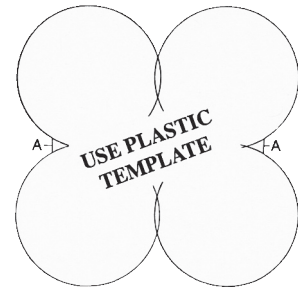

FIGURE 1
2. Using the enclosed drill guide templates, drill four 3/16" holes and follow with 1-1/8" diameter hole saw (See Figure 1). These holes must be 1-1/16" on center in both directions. Evenly file the points marked "A" until the switch goes comfortably between them. The distance between these points should never exceed 1-3/4". We strongly suggest that this first be tried on a practice piece of wood.